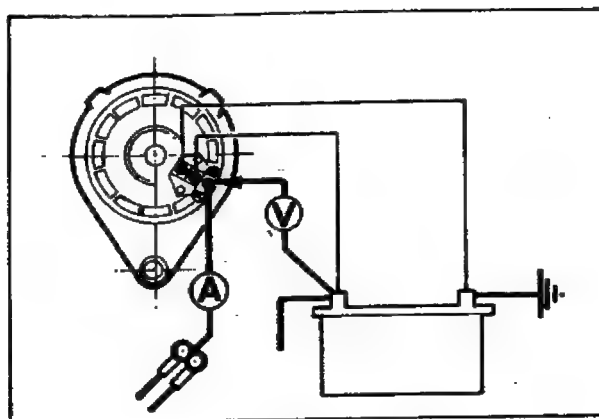

Fig. 21 – Charging Circuit Voltage Drop Test (insulated side)
7. A low output current reading will indicate either a faulty alternator or poor circuit wiring connections. Check the latter while keeping the alternator connected and running as described above; connect a good quality voltmeter, of low range if available, between the alternator output terminal and the battery insulated terminal (see Fig. 21) and note the voltmeter reading.